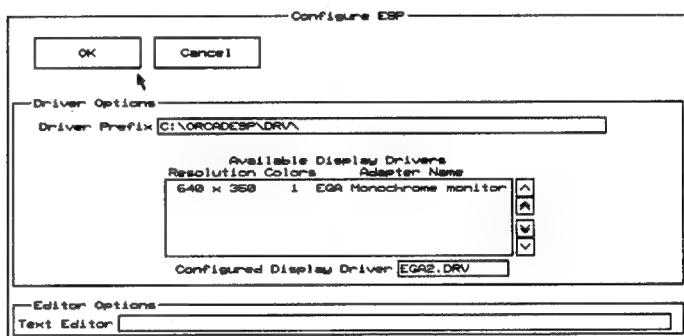

Figure 2-3. Top portion of the **Configure ESP** screen.
2. Select **Configure ESP**. The screen in figure 2-3 displays.